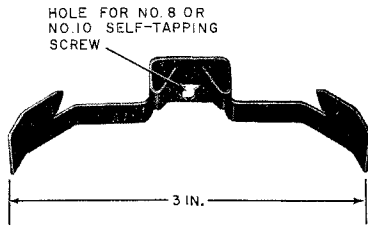

Fig. 16—B Support Clip
3.11 *B Support Clip (Fig. 16)*: Used as a support when attaching to structural steel members.